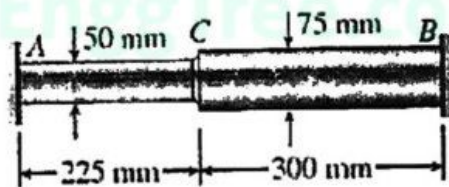

Fig. 4
15. (a) A plastic bar ACB having two different solid circular cross sections is held between rigid supports as shown in the fig 4. The diameters in the left- and right-hand parts are 50 mm and 75 mm, respectively. The corresponding lengths are 225 mm and 300 mm. The modulus of elasticity (E) is 6.0 GPa, and the coefficient of thermal expansion is $100 \times 10^{-6}/^\circ\text{C}$. The bar is subjected to a uniform temperature increase of 30°C .